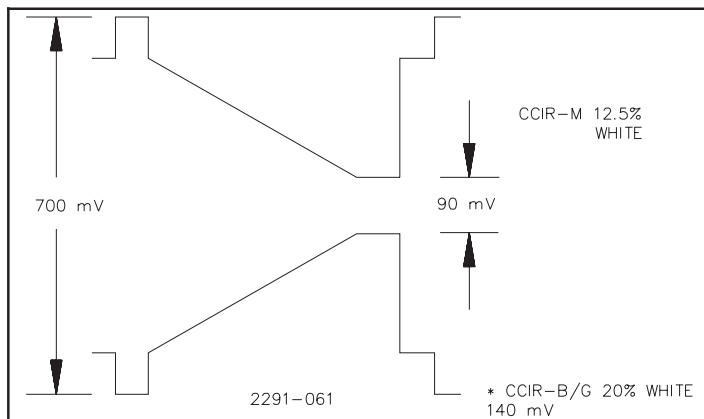

Figure 5-5. Modulator Output Waveform
- Adjust the modulator video level control for 700 mV at peak of sync and mod bias control for 88mV p-p at white for CCIR - M (12.5% ratio) or 70mVp-p at white for CCIR - B (10% ratio). See Figure 5-5. The two controls interact so it will be necessary to go back and forth until both conditions are achieved at the same time.